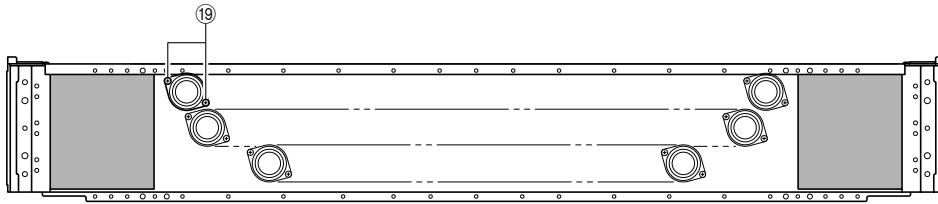

Fig. 10
- Remove 2 screws/piece marked (19). (Fig. 10)
- ⑲のネジ2本/個を外します。(Fig. 10)